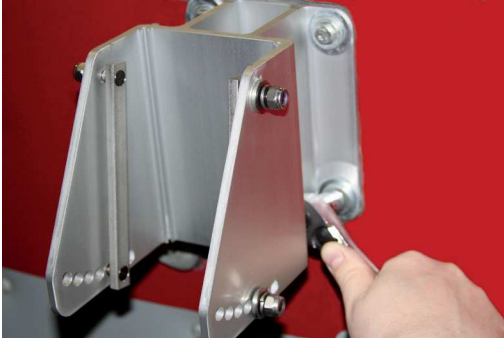

FIGURE 9
4. Attach the Mounting Bracket to the Transom/Stern using the “Mounting Bracket to Transom Hardware” (J-M.) **DO NOT OVERTIGHTEN.** (Figure 9)